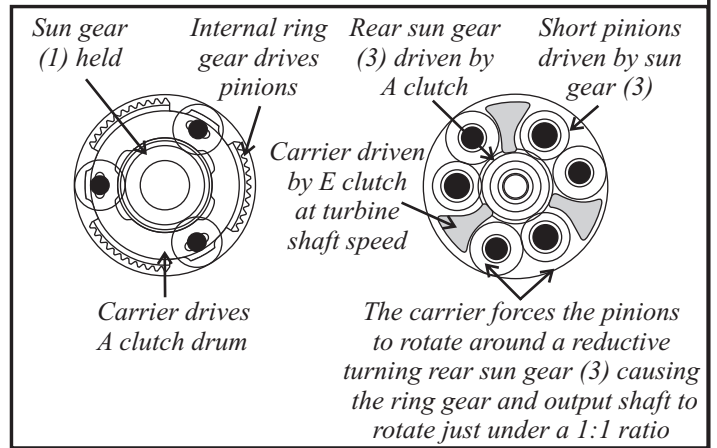

Figure 11
**Powerflow in 4th gear:** The A clutch still applied drives the small rear (#3) sun gear. The B clutch is released and the E clutch applies driving the double planetary output carrier at turbine shaft speed. The action of the carrier forcing the pinions to rotate around a reductive spinning sun gear causes the internal ring gear and output shaft to rotate in an approximate reduction ratio of 1.143:1 (Figure 11).